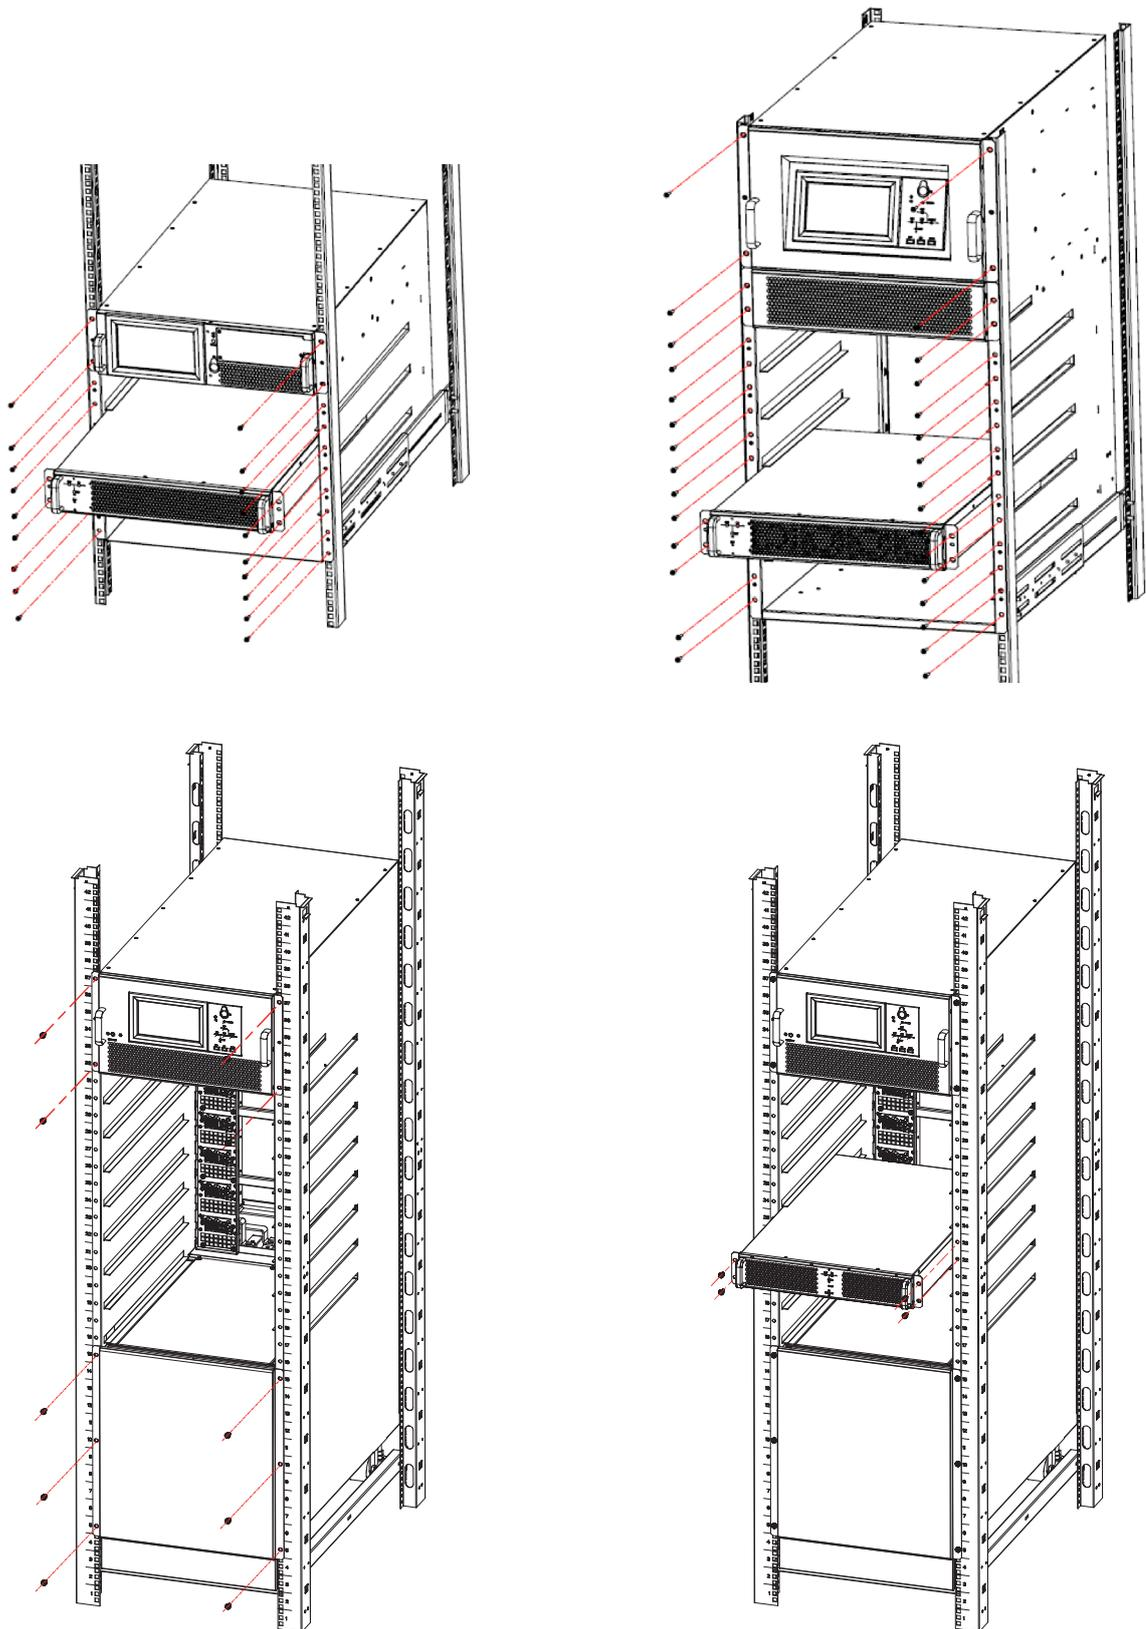

*Fig. 28. Prior steps to installing the sub-rack in a rack cabinet.*
- The installation of a sub-rack inside a cabinet must be carried out as indicated below. The illustrations in Fig. 28 and 29 are a guide and show the general example of a 4-slot sub-rack, although some are included with 6 and 8-slot sub-racks when it is considered necessary.